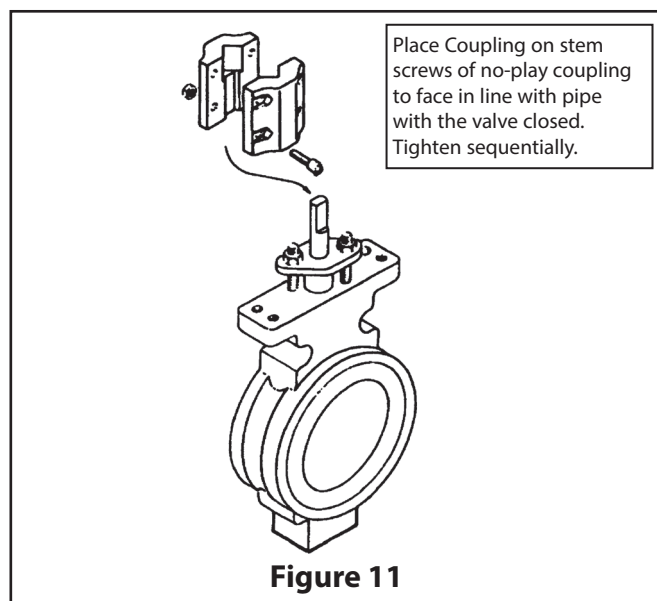

Figure 11
3. Place the coupling onto the valve stem. If the valve has a two-piece "no-play" bolted coupling, assemble the coupling loosely on the valve stem. Use socket head cap screws and lock nuts. (See **Figure 11**).